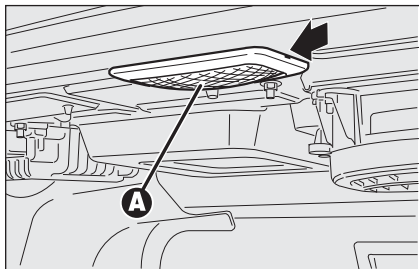

fig. 50
- remove the light unit **A-fig. 50** levering in the point shown by the arrow;